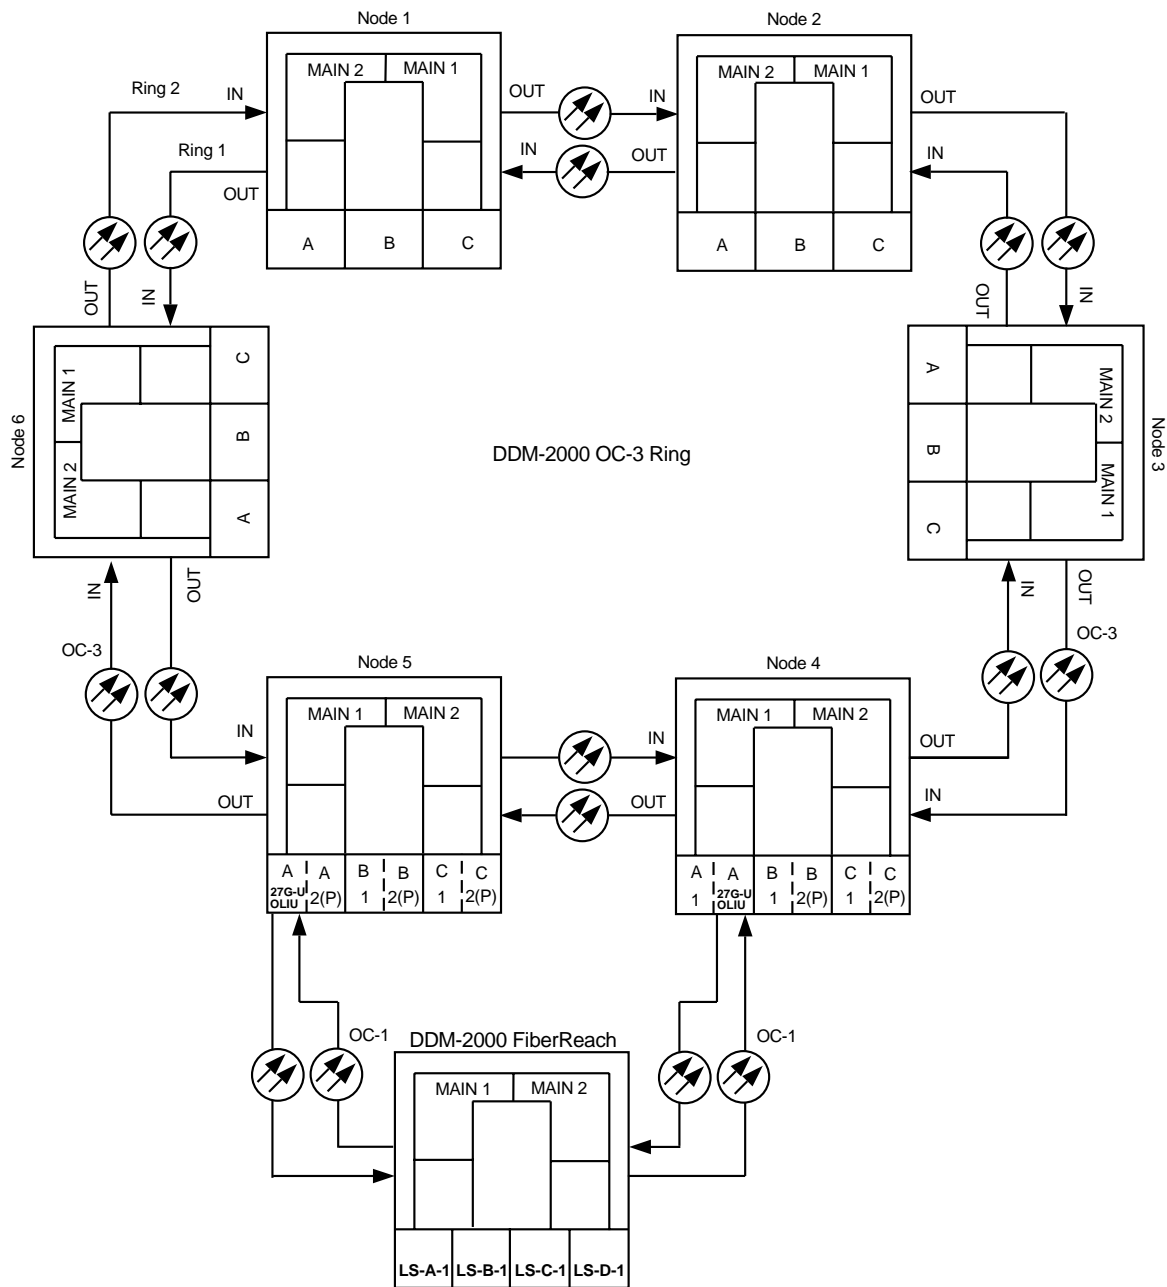

Figure 1 – Sample Network Schematic
9. Trouble may be in optical fiber and/or connections. Trouble may also be in **OLIUs**. If the report indicated trouble when the report was obtained from the near end of the span, trouble may be in the receive direction (see Figure 1). If the report indicated trouble when the report was obtained from the far end of the span, trouble may be in the transmit direction. Check optical fiber and connections. Clean optical fiber connections [**DLP-527**]. If no trouble found in the optical fibers, replace **OLIUs** [**DLP-523**] associated with the address indicated in the report.
Make a simple drawing of the network and list the TID of each node and how they are connected to each other. Figure 1 shows an example of a simple schematic.